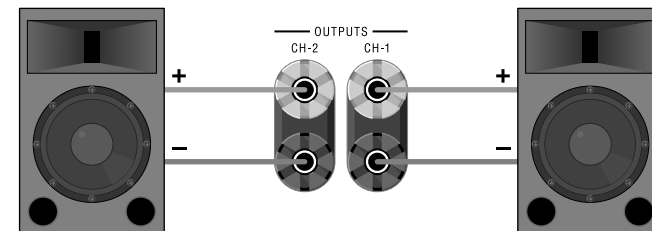

Fig. 2.5
6. **Connect the outputs** of the K-Series amp to your loudspeakers. If the Bridge Output switch is turned OFF, connect the positive (+) and negative (–) leads of each loudspeaker to the appropriate Channel 1 and Channel 2 output connectors as shown in Figure 2.5.